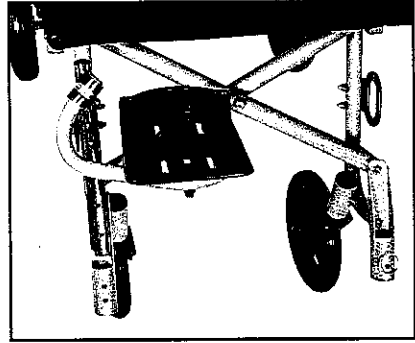

figure 11
3. Reverse the footrest extension tube orientation (Fig 11).